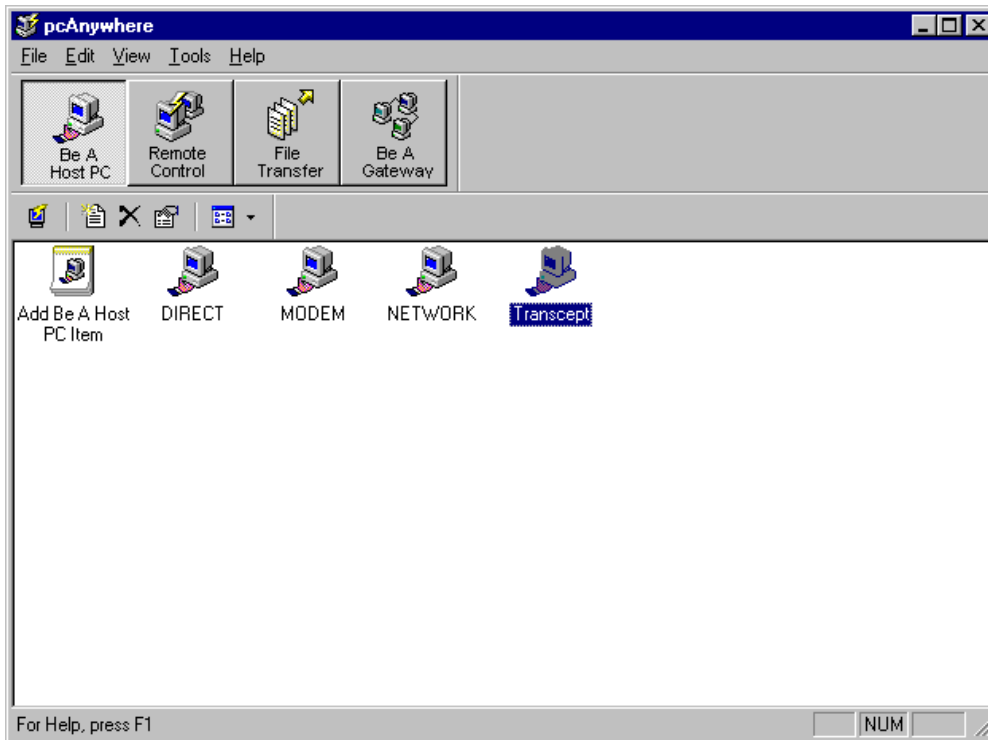

Figure 5-6. New Session Icon Appears
- f. When the Successful Completion GUI clears, the session just created should appear as an icon in the Be a Host PC GUI as shown in Figure 5-6.